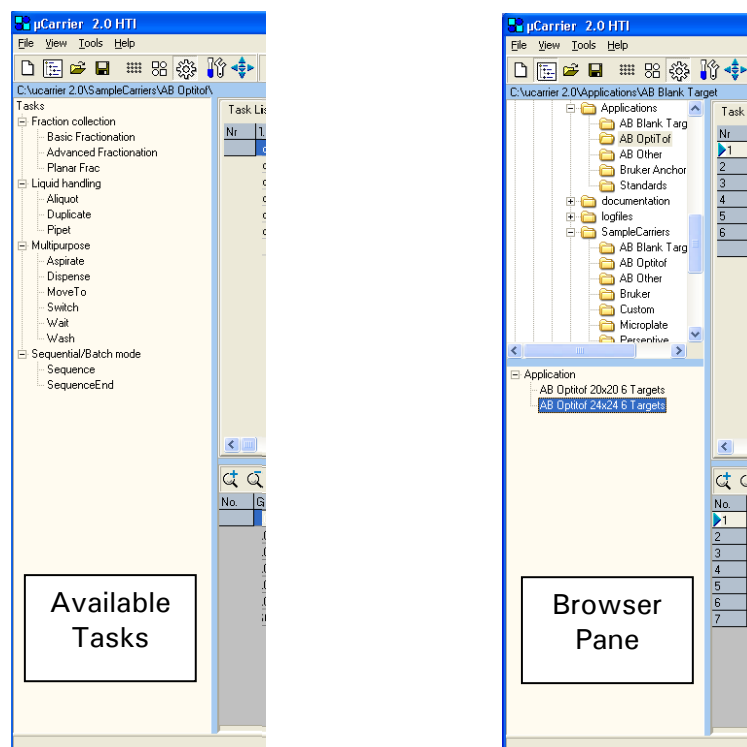

FIGURE 2-12 Left - List of available Tasks, Right – The Browser Pane
b) Select the **Show Browser** button to replace the list of available 'Tasks' by the browser pane (FIGURE 2-12).